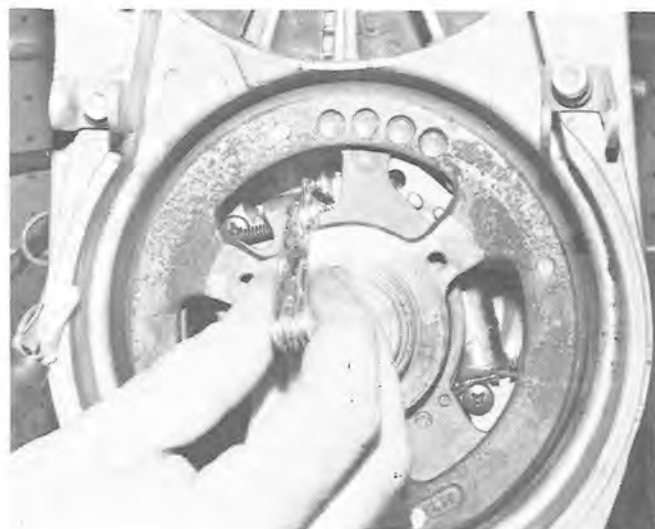

FIG. 1-66
- C. Rotate flywheel counterclockwise until points are on the high side of cam on No. 1 cylinder. Points are at maximum open position observed through opening in flywheel. Check gap with wire gauge and adjust to .015 if necessary. See Fig. 1-66.